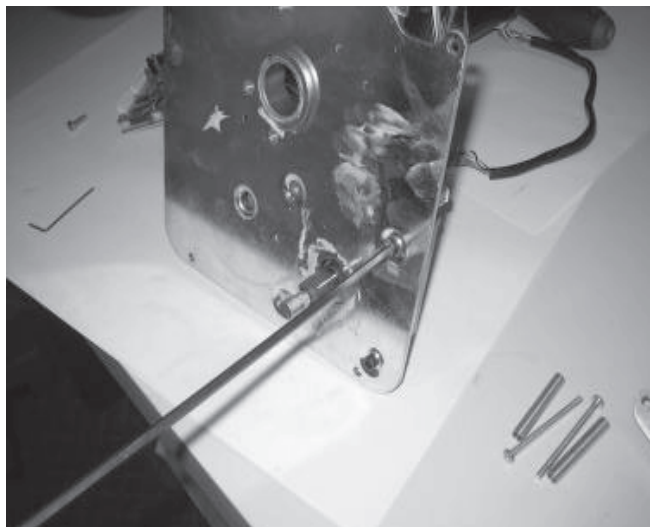

Figure 16.
- 4.18 Remove the four socket-head cap screws that retain the motor/gearbox, using a 9/64" hex wrench, see Figure 16.